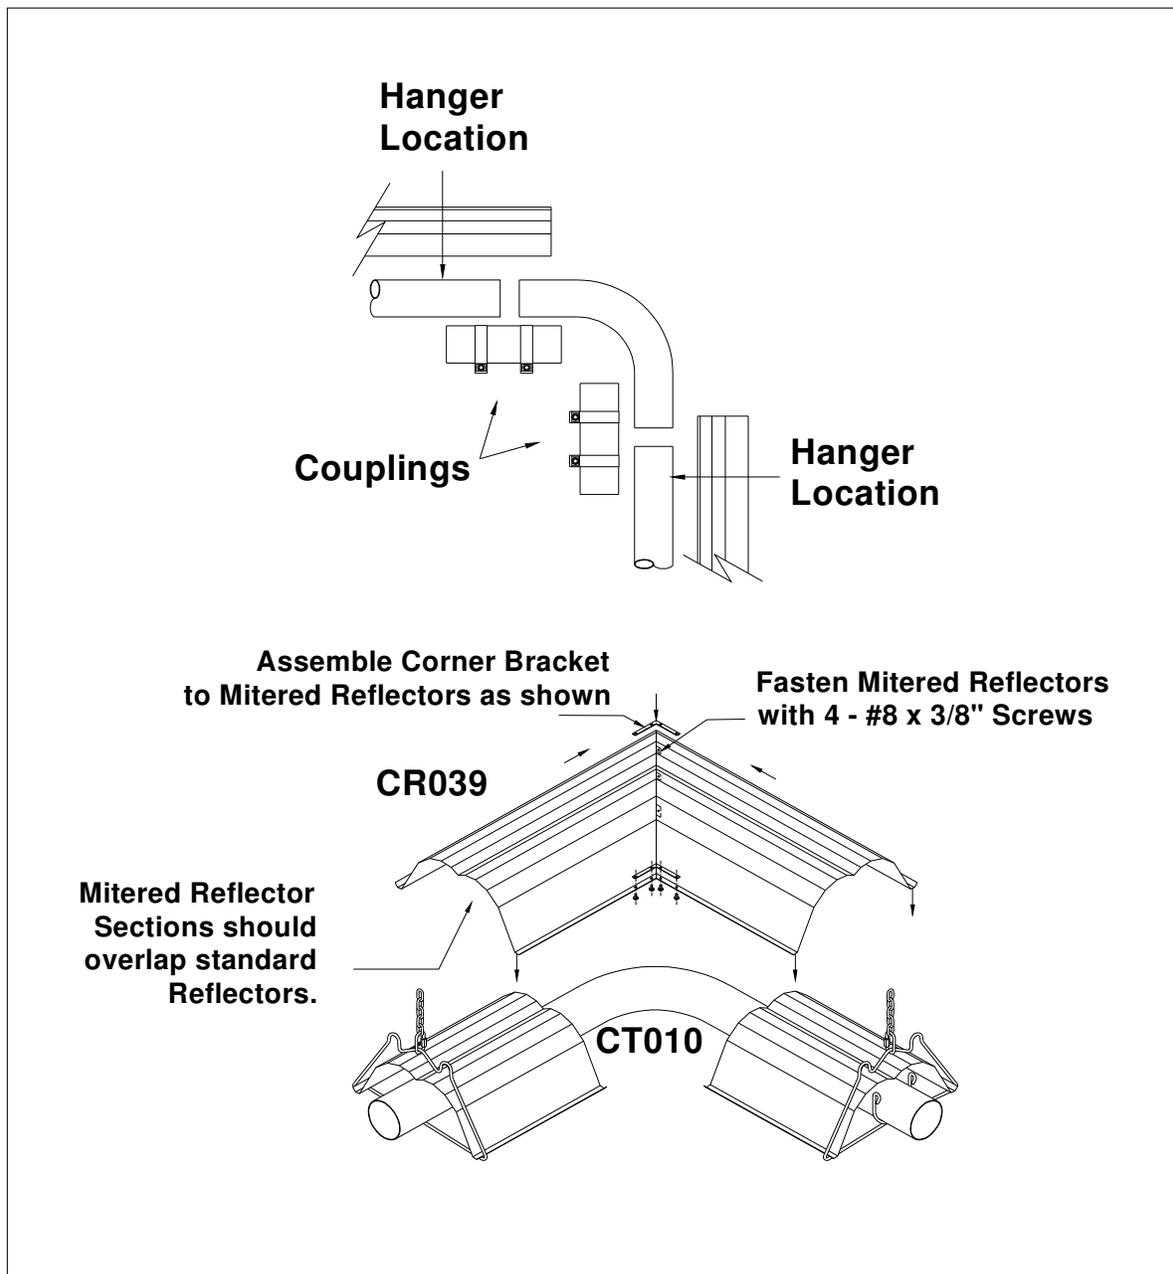

Figure 15: 90° Elbow Assembly Detail
- If required by the heater layout, install 90° elbows or U-tube where indicated. Refer to Figure 15 & 16 for details.